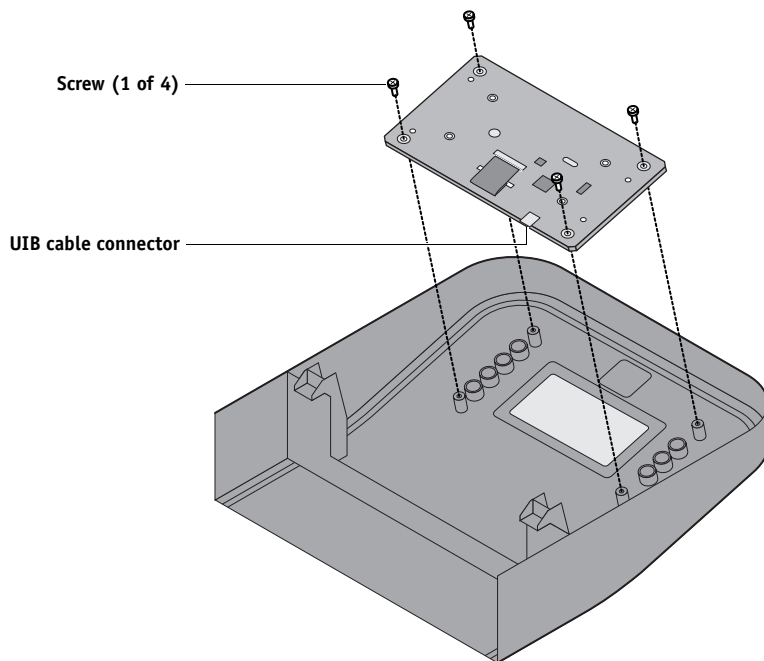

FIGURE 20: Removing/replacing the User Interface Board
2. **Attach the UIB cable to the connector on the back of the UIB (see Figure 20 on page 59).**